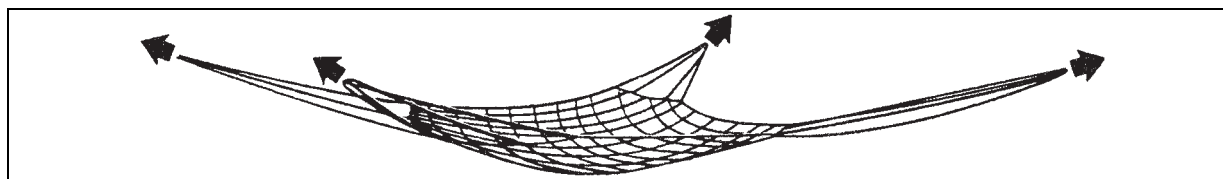

Figure 7-5. Fully Extended Net
- Spread the net out on the ground. Have four persons pull evenly on each of the four lifting legs to open the net to its fullest extension over the spot where the net is to be loaded (figure 7-5). This will prevent the net from shifting under the pallets or load when the helicopter lifts the net.